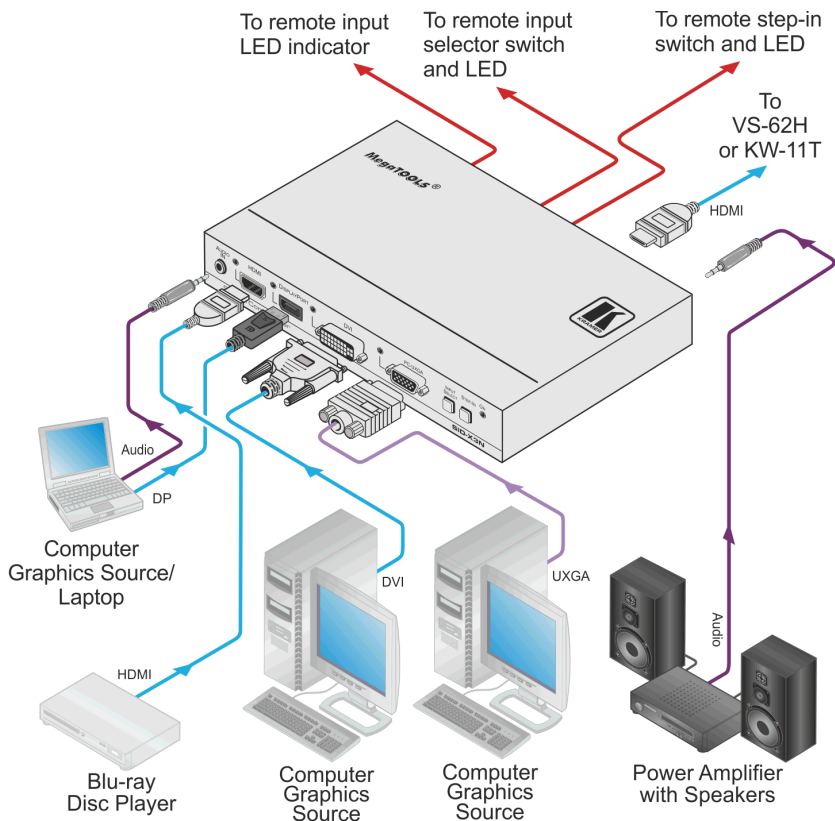

Figure 3: Connecting the SID-X3N Step-in Commander
To connect the SID-X3N as illustrated in Figure 3:
8. If required, connect a device requiring a 5V DC power supply, (for example, the **KW-11T**, not shown in Figure 3).
9. Connect the power adapter to the **SID-X3N** and to the mains power, (not shown in Figure 3).